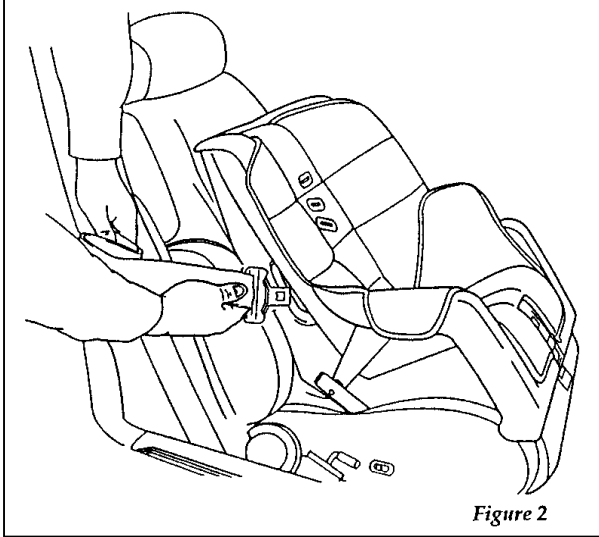
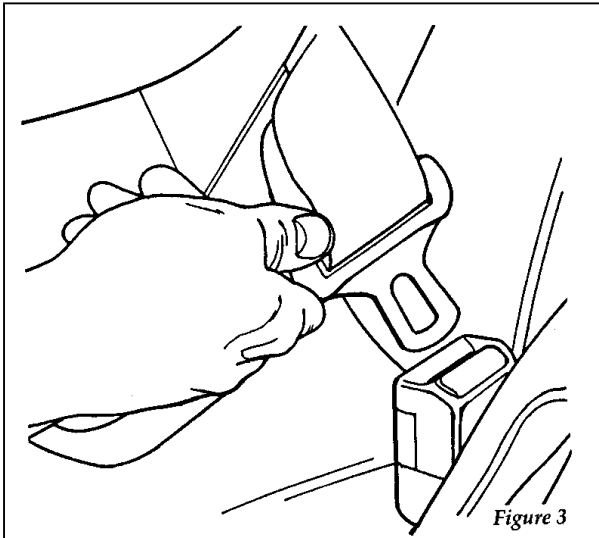

Figure 2
Figure 3
3. While holding the shoulder and lap belt portions together, route the tongue through the child seat according to the child seat manufacturer's instructions. See Figure 2. Be sure the belt webbing is not twisted, and insert the tongue into the buckle. See Figure 3.